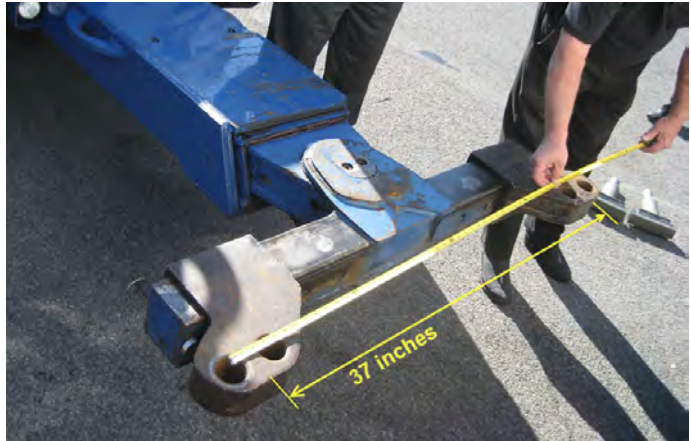

Figure 30
2. On the first lift, position the tow bar fork holders under the front tow eye pads (Figure 30 to Figure 32) to lift the bus in order to place the front wheels firmly on the tow cans or blocks.
tow eyes= 37 inches** (Figure 30)